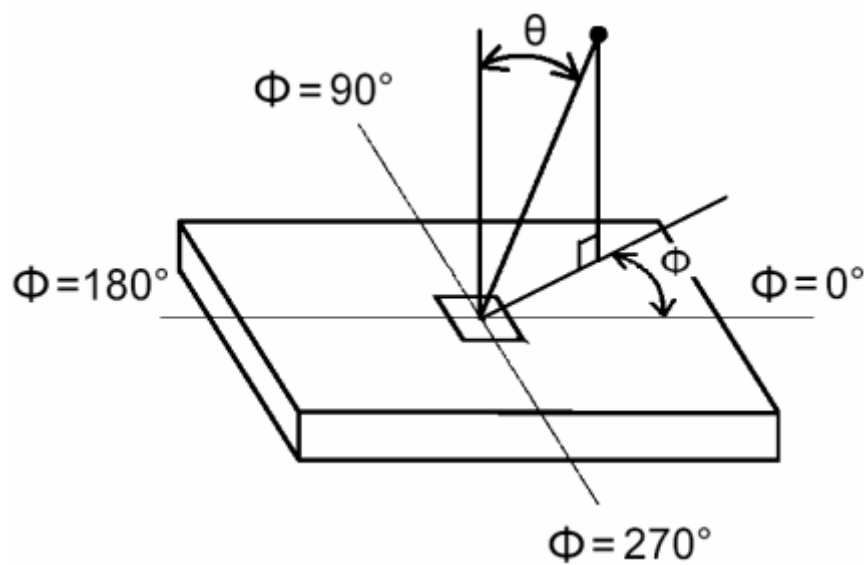

Fig.4-4 Viewing angle definition
5. Viewing angle is the angle at which the contrast ratio is greater than 10. The angles are determined for the horizontal (or x-axis) and the vertical (or y-axis) with respect to the z-axis which is normal to the LCD surface. For more information see Fig. 4-4.